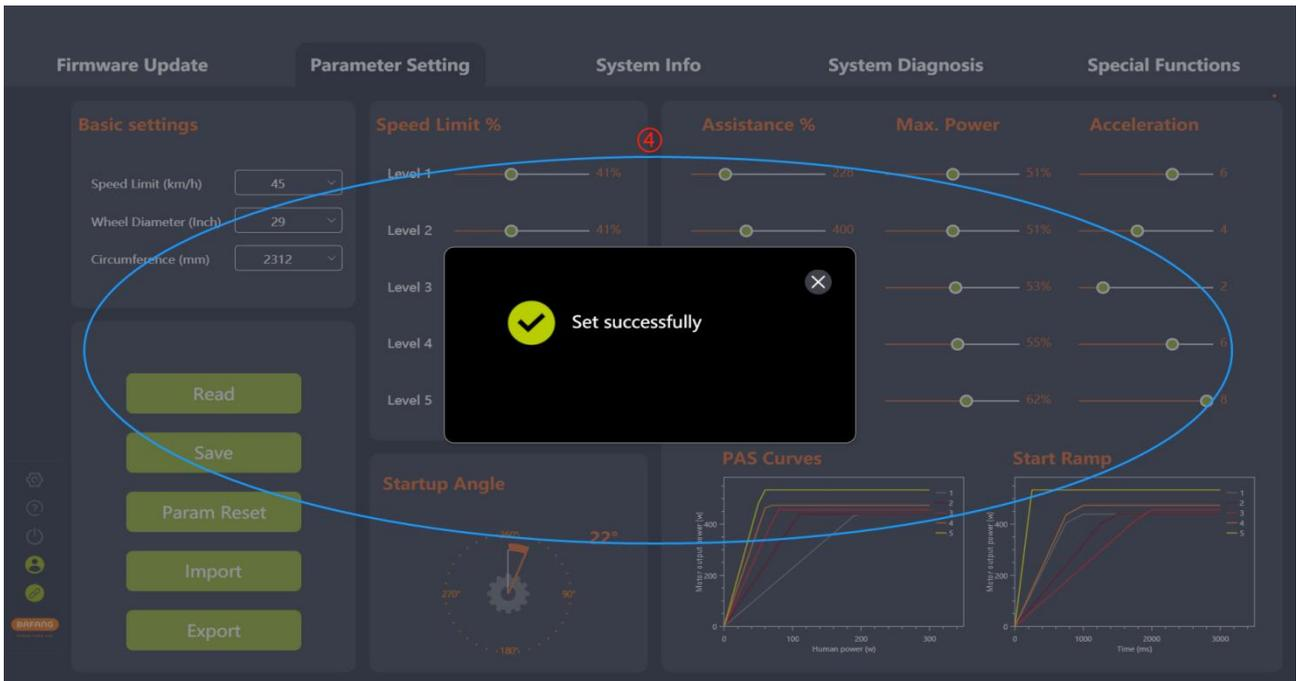

Fig. 5-14 Set parameters
- (4) After logging in, you can set parameters (Fig.5-14).